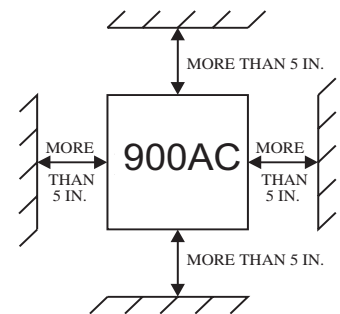

Figure 2.1
C. The 900AC series generates heat. Allow sufficient space around the unit, as shown in Figure 2.1.